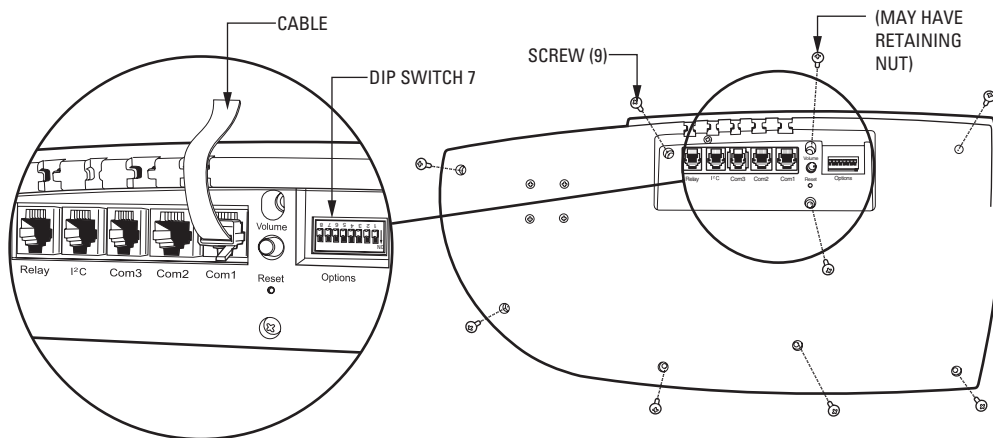

Figure 1. Bottom of CM9760-KBD
2. Log off the KBD and then turn the KBD over so that the bottom of the KBD is visible (refer to Figure 1).
- a. Unscrew nine Phillips screws as indicated in Figure 1. Note that on some KBDs one of the screws has a plastic retaining nut as indicated in Figure 1. Remove that screw *after* you remove the other eight screws.